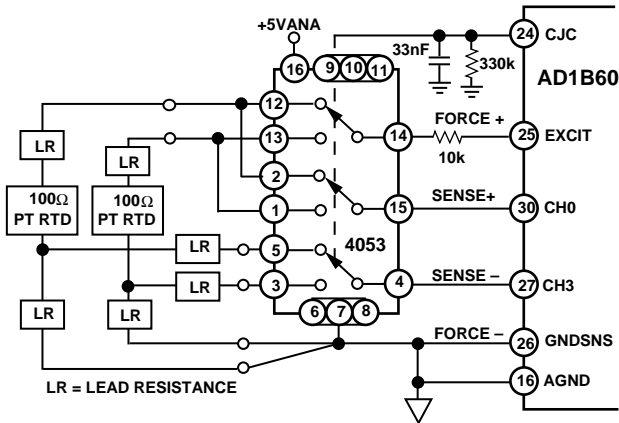

Figure 11. Typical Multiplexed 3-Wire RTD Connection
By placing a 330 k $\Omega$  resistor to AGND from this pin, a logic voltage can be generated (see Figure 11). The level can be switched from high (about +4 V) to low (AGND) by changing the CJC mode from thermistor (00) to any other, using the WR\_RAM\_PARS command.
Two RTDs can be multiplexed using the CJC pin as a control line to select between them, as described in the previous subsection. Figures 11 and 12 show multiplexed 3-wire and 4-wire RTDs.